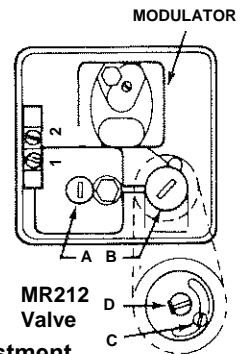

Figure 6
2. Remove cap (B), Figure 6, and loosen lock screw (C). Turn (D) to desired low fire adjustment. (Clockwise rotation reduces minimum flow rate.)
3. Tighten set screw (C), replace cap (B) and reconnect wire to terminal # 8.